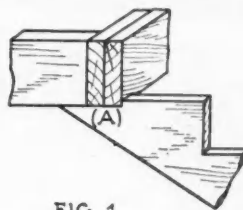
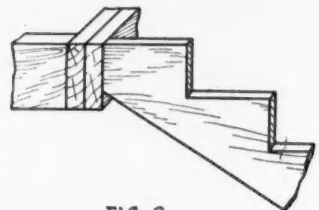

FIG. 1
FIG. 2
MANY carpenters cut their stair horses as shown at (A) in Fig. 1, which is, in my estimation, a very poor method. I always frame the opening at the head of the stairs the
The Method Shown in Fig. 2 Makes a Much Stronger Stair Than That in Fig. 1.
HAVING a light delivery truck, with a plain square box body, as in Fig. 1, I found I could make it equally useful
I made a frame of 1¼ by 4 inch material, as shown in Fig. 2. This sketch is self-explanatory except for one point. At the proper point there is built into this frame a cross piece of 1½ by 4 inch material in such a fashion that, when the frame is slipped toward the box body, the cross piece will be in the proper position to serve as an end-gate.